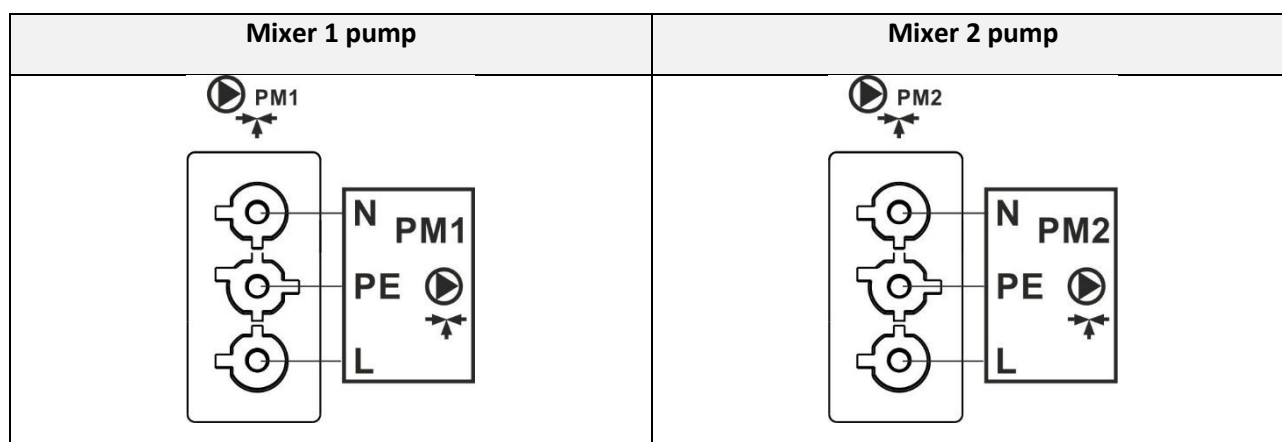

Figure 22. Wiring diagram of Mixer pumps
- connect the Mixer pump via the connector on the top of the switchboard to the controller (see Figure 22) according to the technical documentation of the pump manufacturer.